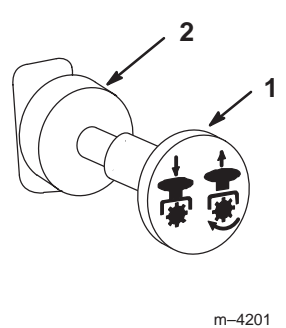

Figure 11
3. Move the PTO (power take off) switch to off (Fig. 11).